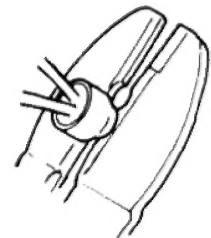

Fig. 35
4. Secure the nearly equal central part of the metal sleeve with the second concave of the tool for solderless securing as shown in Fig. 35.